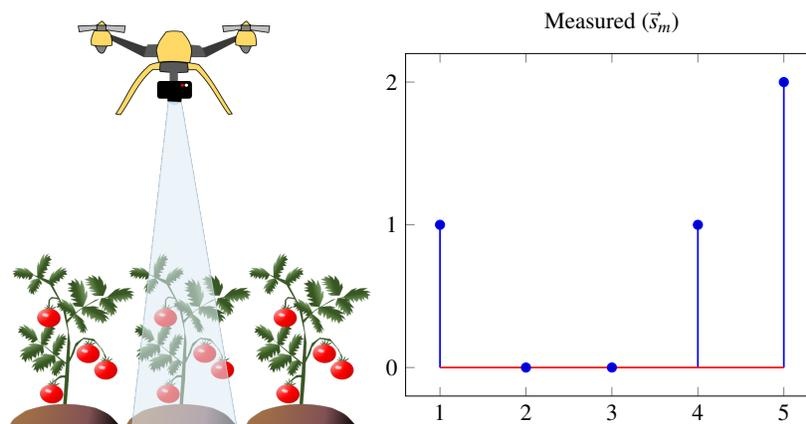

Figure 9: Spectral signature for the measurement, \vec{s}_m .
- (a) (6 points) Using your spectral sensor, you measure the following spectral signature for one of your tomato plants as shown in Figure 9. This measurement has some noise in it.